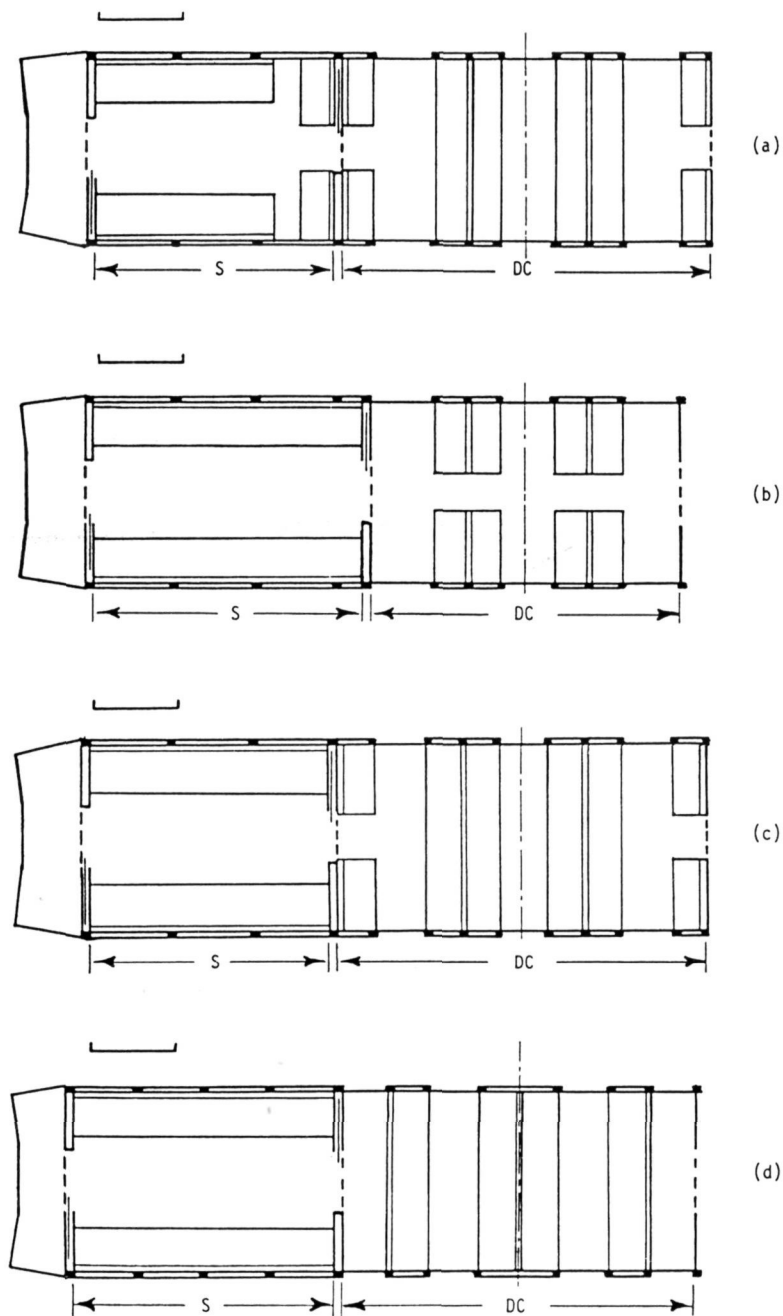

figure 1
Although the early series of Melbourne drop-centre trams (C, E, N and P classes) were built in Adelaide, the L class (the forerunner of the W series) and most of the W series, were built in Melbourne. The early series of drop-centre trams also had drop-end sections (see Fig.1). All early modifications included an aisle cut through the seats in the drop-centre section, so that in the case of the modified C and E classes (Fig.1b), they resembled the later W2 design (Fig.3c), particularly with the widened external entrance in the drop-centre closest to the saloon. The N
The drawings show only one saloon (S), the drop-centre (DC), and, in the case of Figure 1, the drop-end compartment. The driver's compartment and any interconnecting door with the saloon are omitted. The windows and seats in both the saloon and drop-centre are indicated, and the steps between the saloon, drop-centre and drop-end are indicated by heavy dashed lines. The doors between sections (if present) are shown. Trams which have straight (vertical) sides have the external entrances at the same position as the outside dimension of the tram. Trams with curved sides have reduced width at floor level and hence at the entrances. The centre-line of a tram (in the drop-centre) is indicated by a light broken line. All drawings have been accurately scaled from engineering drawings or from actual measurements on trams. The scale shown represents 1 metre.